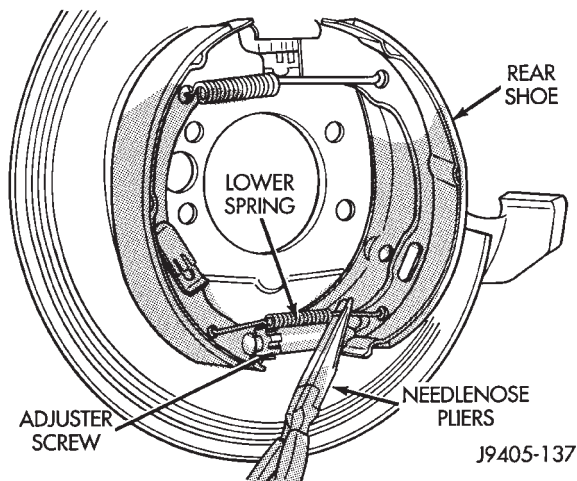

Fig. 49 Lower Spring
(8) Remove upper and lower springs from shoes with needle nose pliers (Fig. 49).